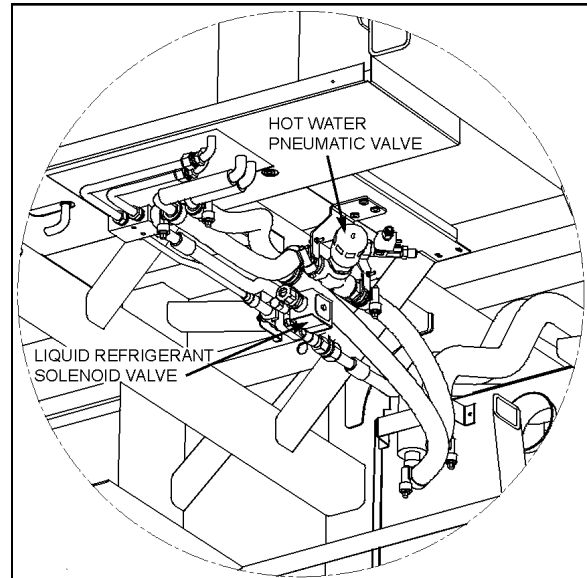

FIGURE 48: CEILING OF THE SPARE WHEEL COMPARTMENT
2. Locate the normally open hot water pneumatic valve on the ceiling of the spare wheel compartment (Figure 48), disconnect its wiring connector, and then connect a 24-volt external power source, using jumper cables, to close valve.